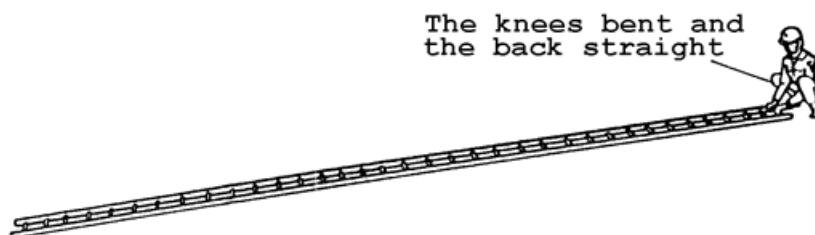

FIG 23.
- Bend down at the knees with the back straight and grasp the top wrung of the ladder. (Fig 23)